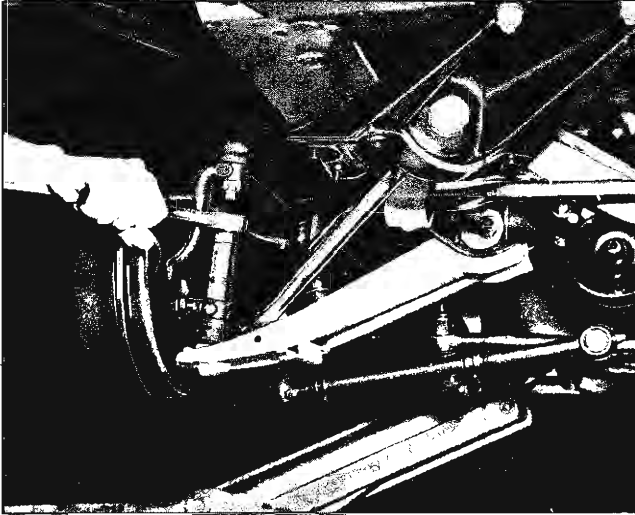

Fig. 31—Disassembling Lower Ball Stud—Chevy II
2. Raise vehicle and remove cotter pin and nut from lower ball joint stud (fig. 31).